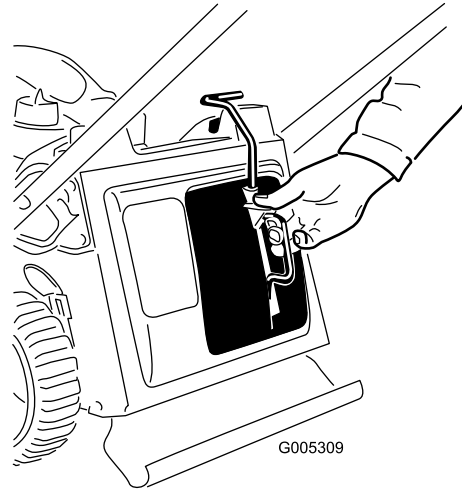
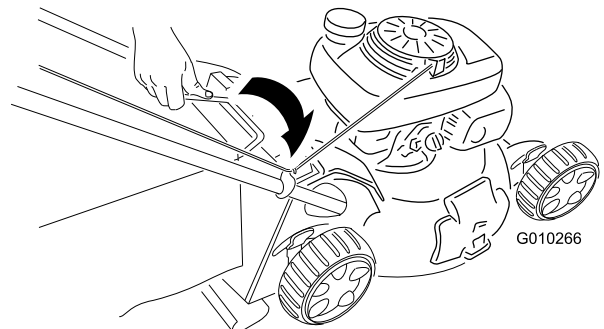

Figure 19
Figure 20
1. Install the mulch plug (Figure 19) or the grass bag (Figure 20) on the machine.
3. Tighten the upper-handle knob firmly (Figure 19).